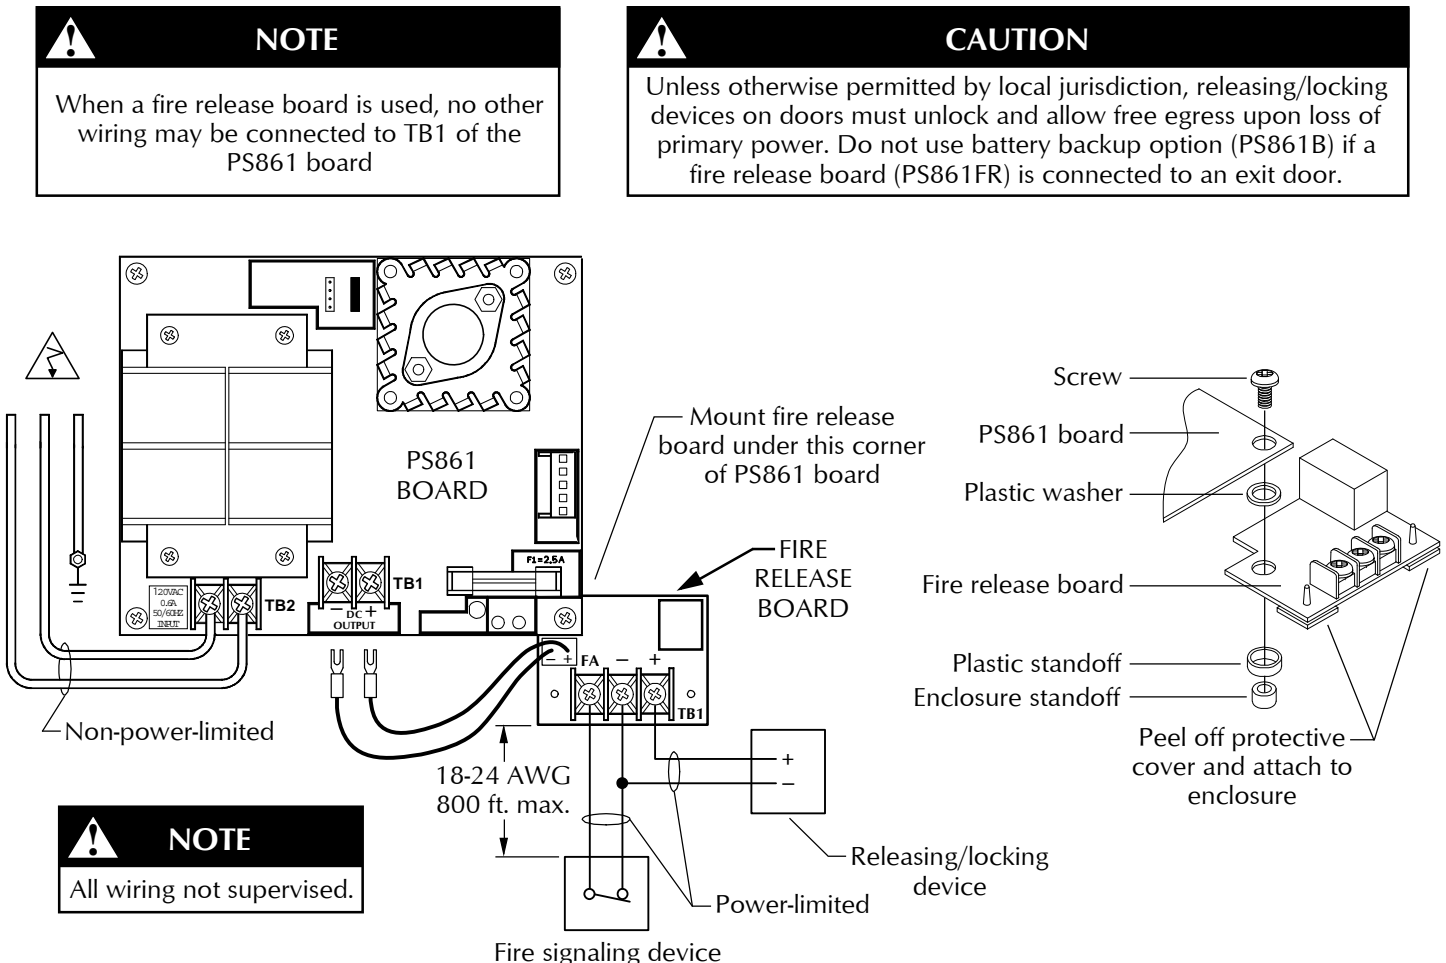

Figure 3. Installing and Wiring the Fire Release Board
7.2. Install the fire release board as shown in Figure 3.